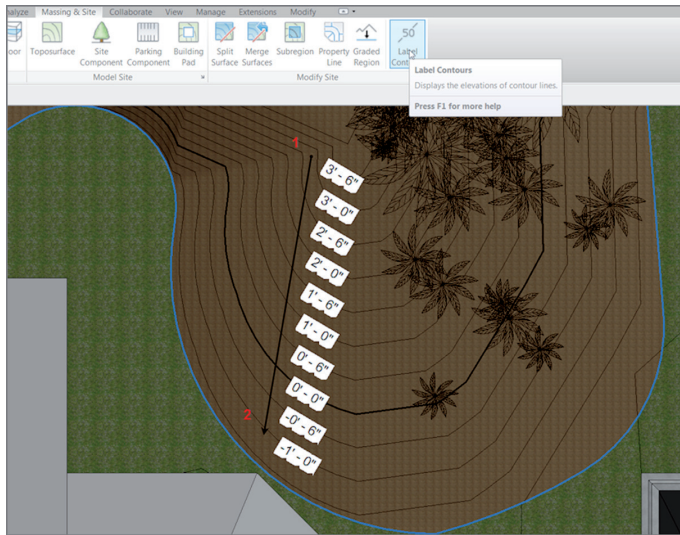

FIGURE BC3.20: Labeling the contours
1. On the Massing & Site tab, click the Label Contours button, as shown in Figure BC3.20.